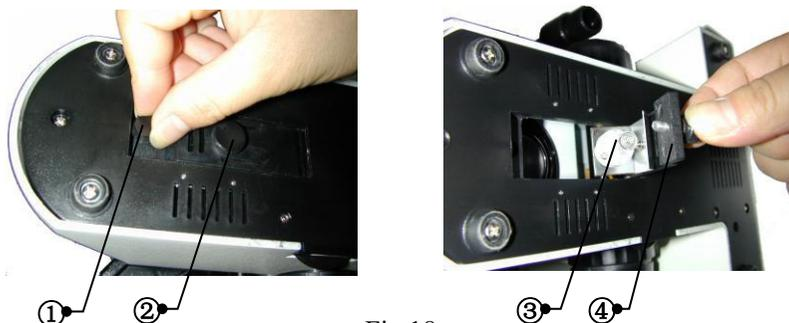

Fig.18
Incline microscope towards back of main body and loosen the thumbscrew ①. Open the lamp house door ④. Pull the old light bulb ③ straight out of the socket. Always use a clean cloth or lens tissue to prevent grease or oil getting on the glass of the new light bulb. Insert the light bulb pins straight into the socket. Close lamp house door and center the light bulb in the field of view by light centering thumbscrew. See fig.18.